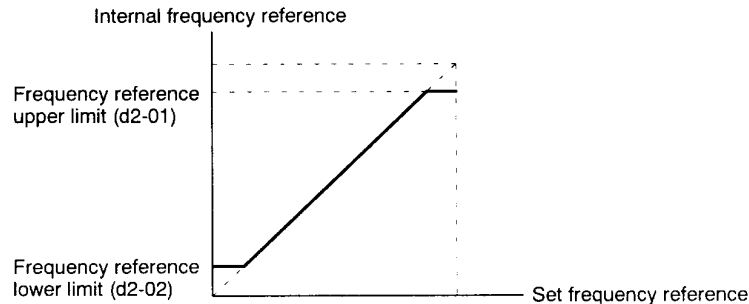

Figure 7.27 Upper and Lower Limits of the Frequency Reference
- The upper and lower limits of the frequency reference are shown in *Figure 7.27*.